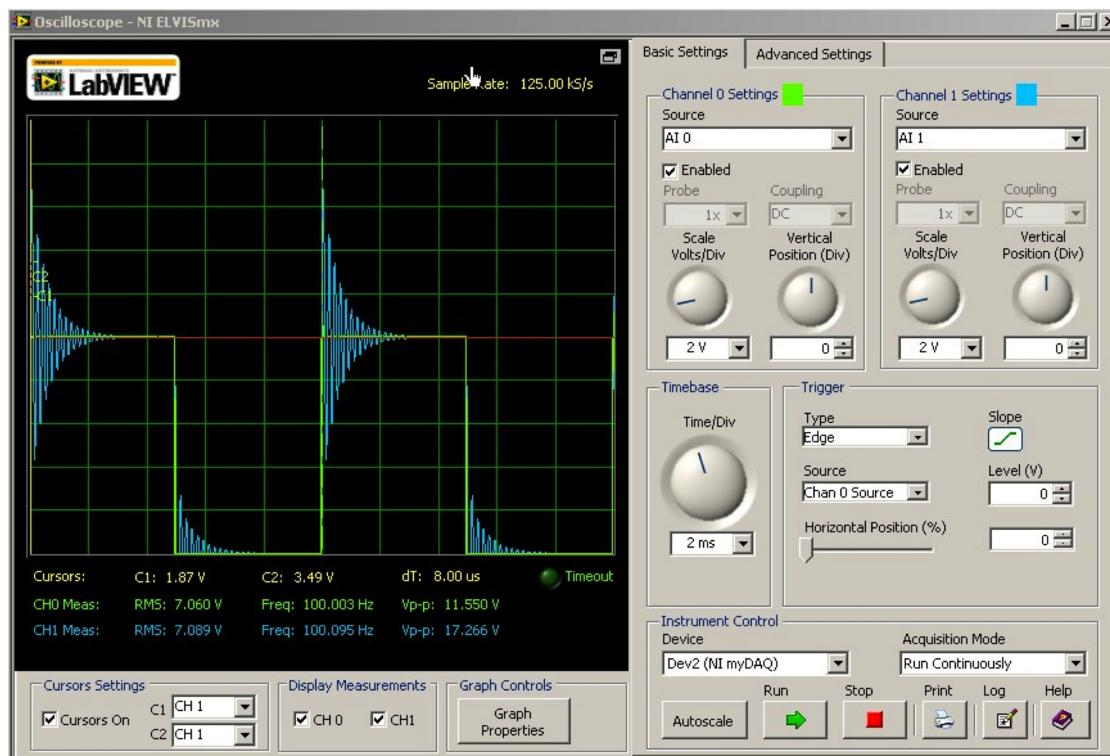

Figure 4: Initial Setup Display
2. Launch the Oscilloscope and set it up as shown in Figure 4.
3. Start the Function Generator and the Oscilloscope by clicking Run on each. You should see a trace like that shown in Figure 4.
1. Stop the scope display so it freezes like the waveform in Figure 4. You may need to stop and start several times to get the scope to behave and show you want you want.